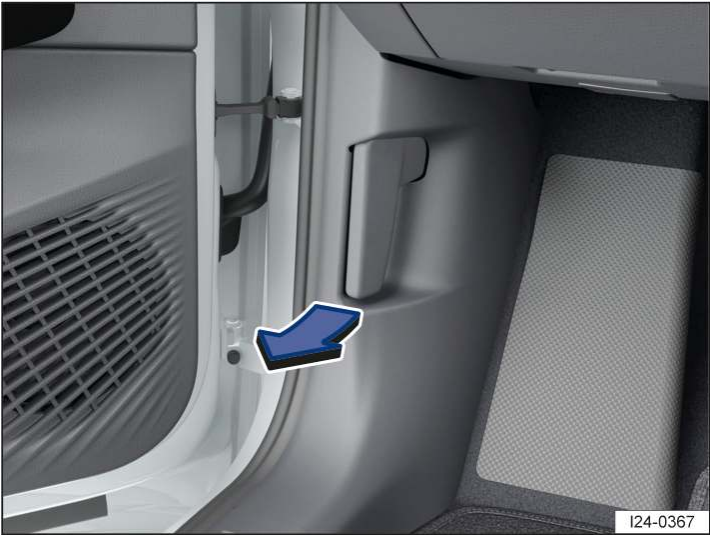

Fig. 1 In the footwell on the driver side: bonnet release lever (illustration).
1. Open the driver door and pull the release lever in the direction of the arrow → Fig. 1.